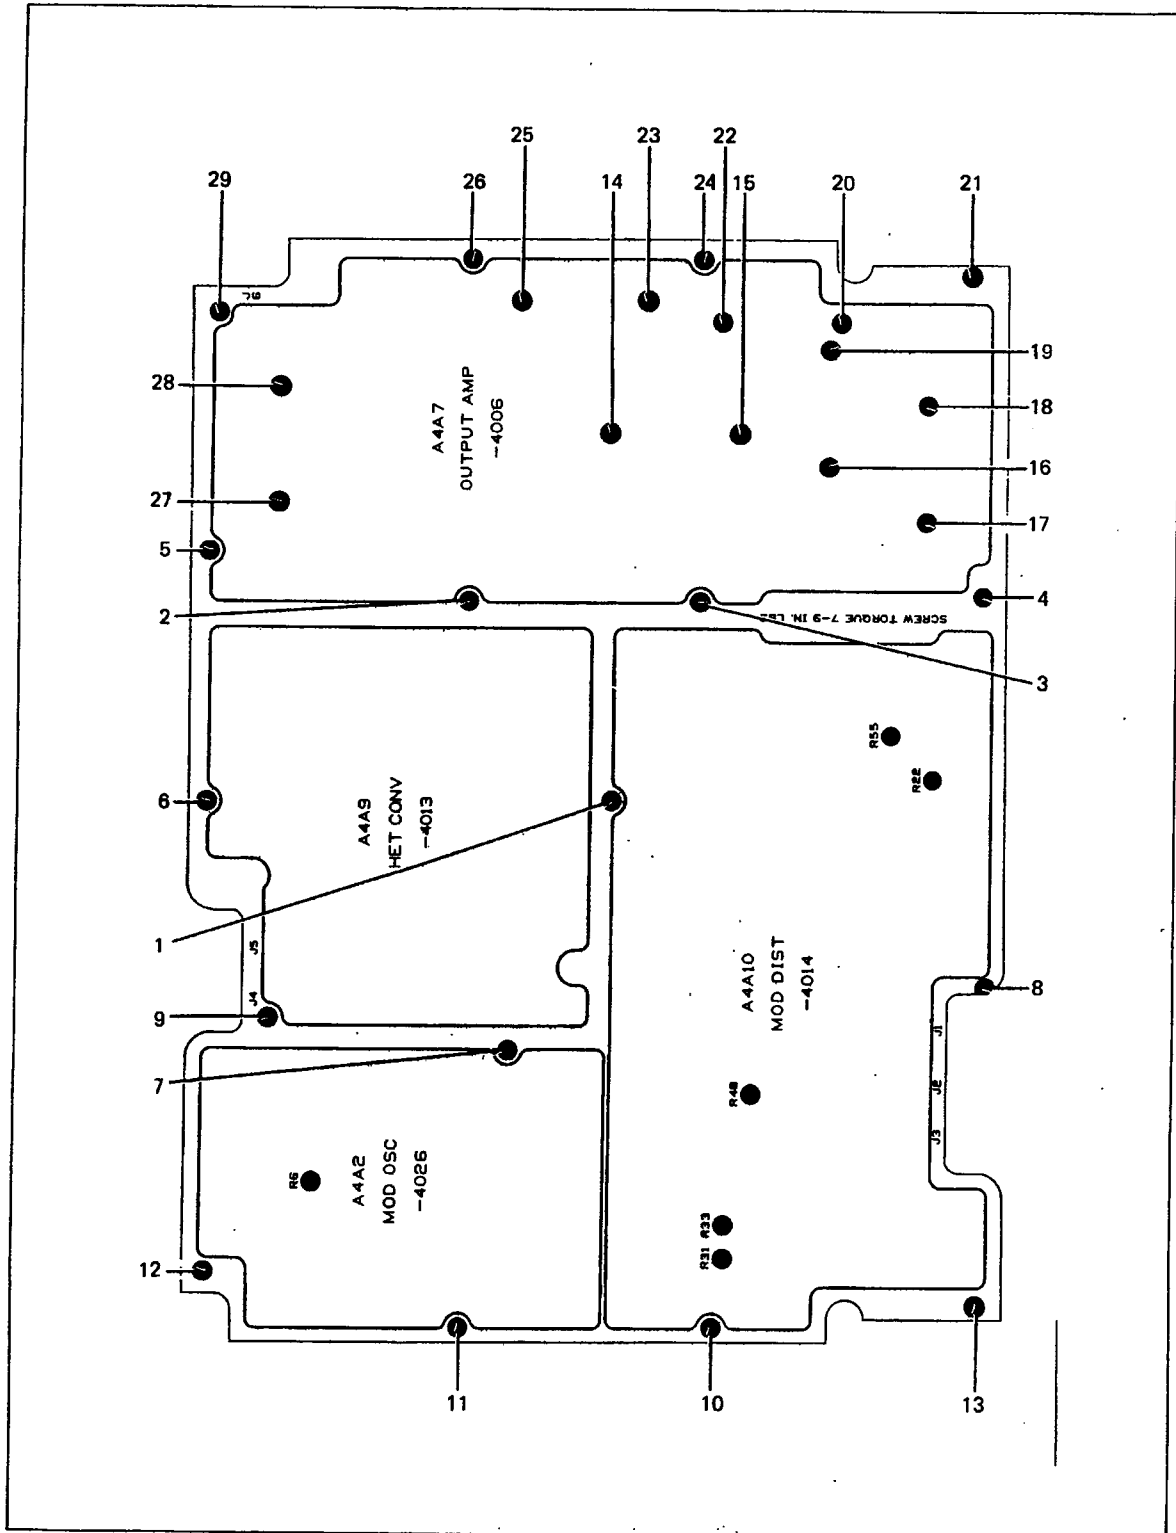

Figure 3-12. Torque Sequence, Output Module, Bottom Cover
3. Remove the screws and washers that hold that bottom cover of the output module in place (Figure 3-12).
a. Torque all screws to 3 inch-pounds in the numerical sequence shown in Figure 3-12.
b. Torque all screws to 7 to 9 inch-pounds in the numerical sequence shown in Figure 3-12. The torque value should be the same for all screws.